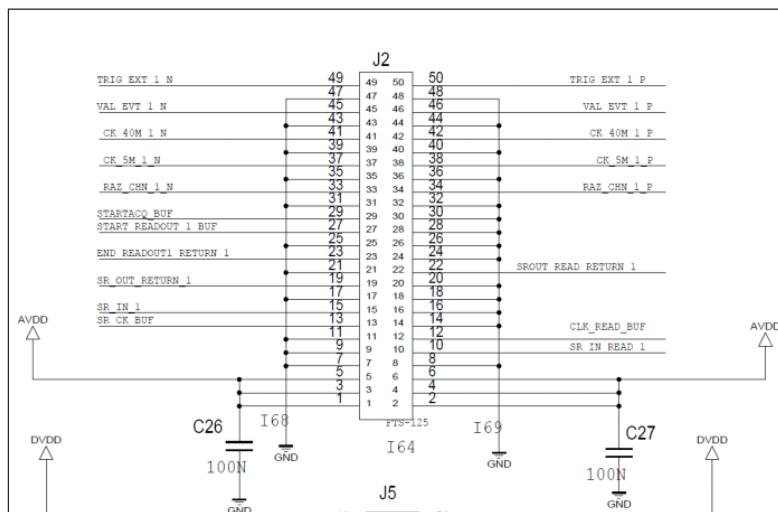

Figure 1.23: J2 connector pin-out
2. Then take a 50 pins flat cable (that you are then going to connect to the J2 connector). Cut in the middle the wires number 13, 49 and 50 (SR_CK_BUF, TRIG_EXT_N and TRIG_EXT_P respectively). Refer to Figure 1.23 for the flat cable pin-out. Strip the “ASU end” of these wires. By ASU end I mean the end that is not to be connected to the interface but to the ASU. If needed do the same for the other flat cables coming out the connectors J6, J8 and J10.